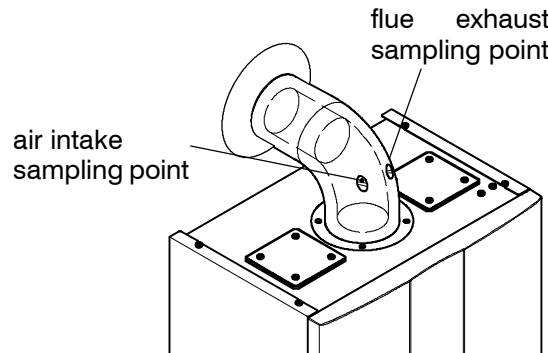

Fig. 11.4
- 11 Fit the probe of the flue analyser in the flue exhaust sampling point located on the exhaust pipes of the boiler (Fig. 11.4).